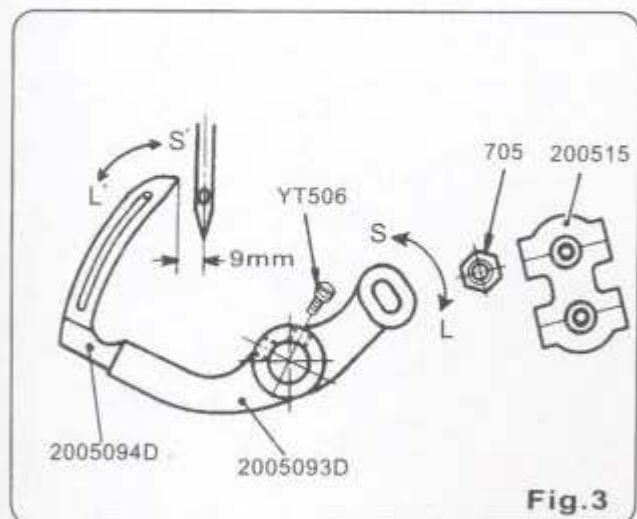

Fig. 3
Turn pulley clockwise, check the distance between needle center and lower looper point in the lowest position of needle bar just before moving upwards, the distance should be 9mm as shown in (Fig. 3). If it is larger or smaller than 9mm, carry out necessary adjustments after loosening nut (705) which holds looper lever (2005093D) and ball joint (200515) in position. Setting ball joints in the direction S will cause lower looper get nearer to needle (S'), while setting them in the direction L will make lower looper go away from needle (L'). Tighten nut (705) after the adjustment.